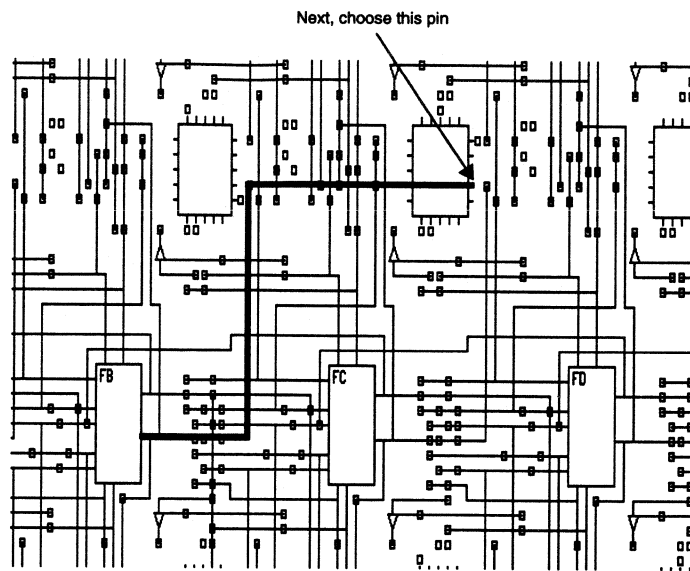

Figure 9-23 Manual Routing — Step 3
10. Select switch matrix pin 9 next, as illustrated in Figure 9-23.